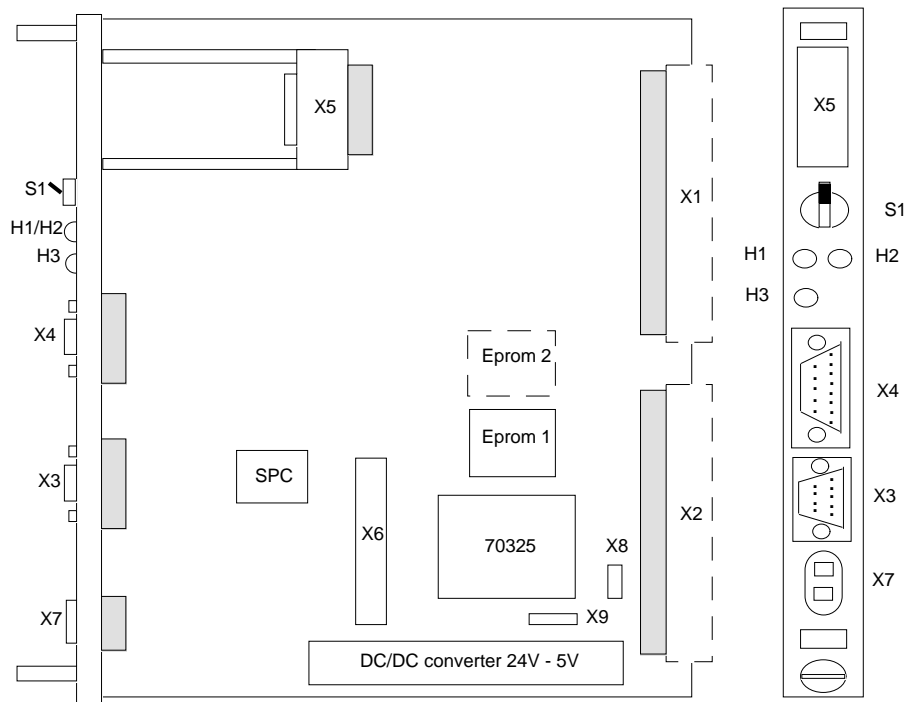

Fig. 4.1 Design of the CP 5430 TF/CP 5431 FMS
The elements of the CP 5430 TF/CP 5431 FMS important for operation can be seen in Fig. 4.1.
**Explanation of Fig. 4.1:****Mode indicator**